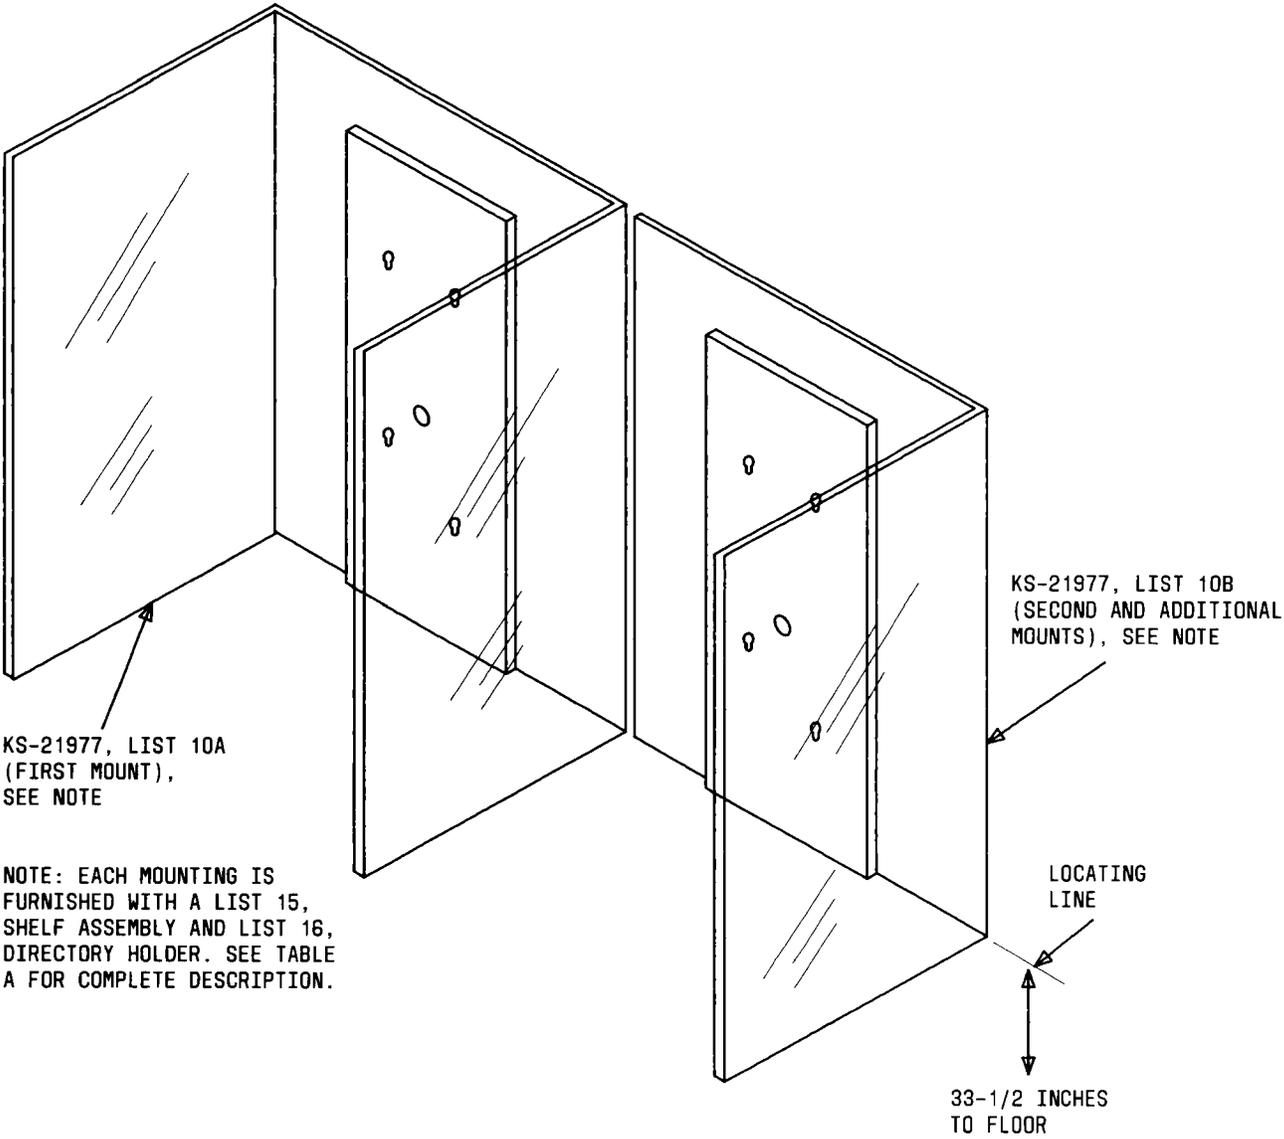

Fig. 5—Wall Mountings, Side-by-Side
C. Wall Mounts, Side-By-Side (Fig. 5)